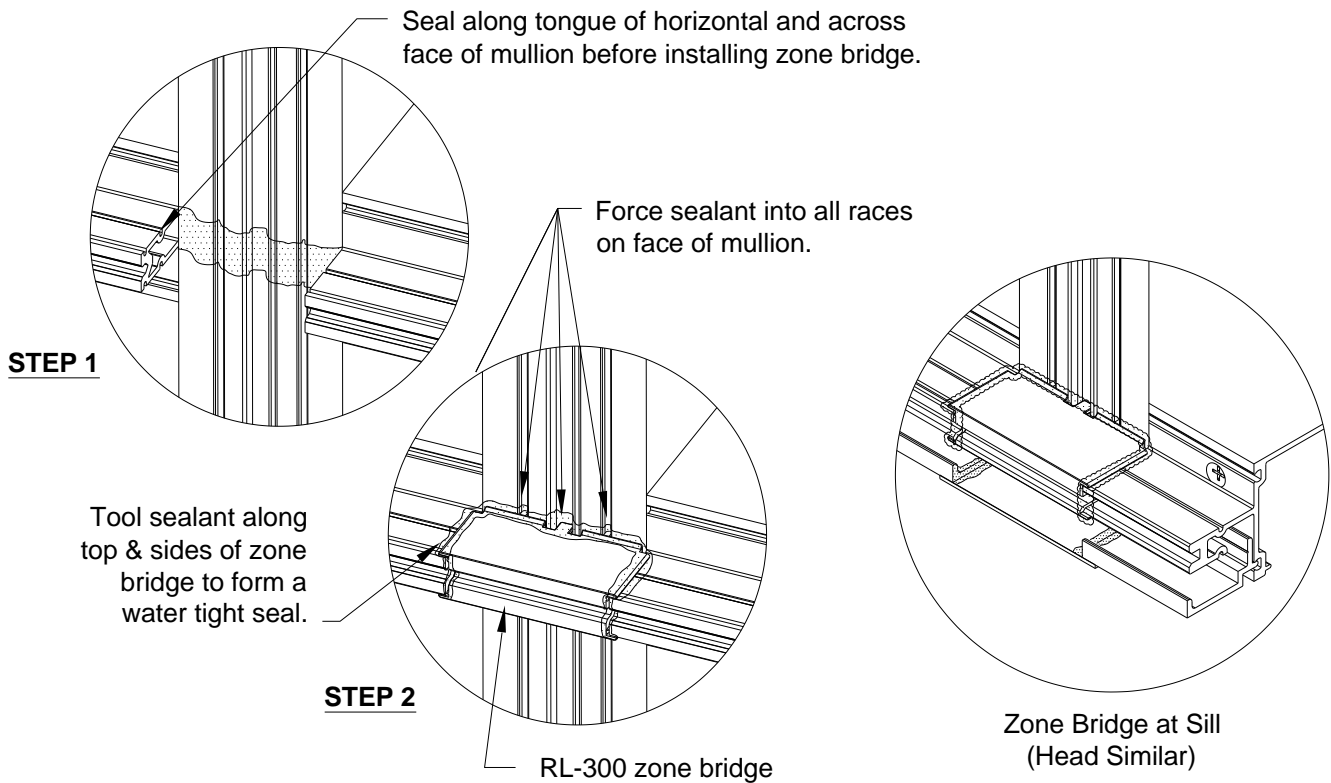

Figure 19: SSG Zone Plug Installation
- 11.4 Apply sealant to all contact surfaces on vertical and horizontal mullions where zone plugs will be installed. Apply sealant to horizontal tongue receptor on zone plug and install at the end of each horizontal, head and sill. Tool any excess sealant around front end of zone plug where thermal spacer abuts the zone plug. Tool sealant in the glazing pockets to ensure a watertight fit. See *Figure 18* and *Figure 19*.